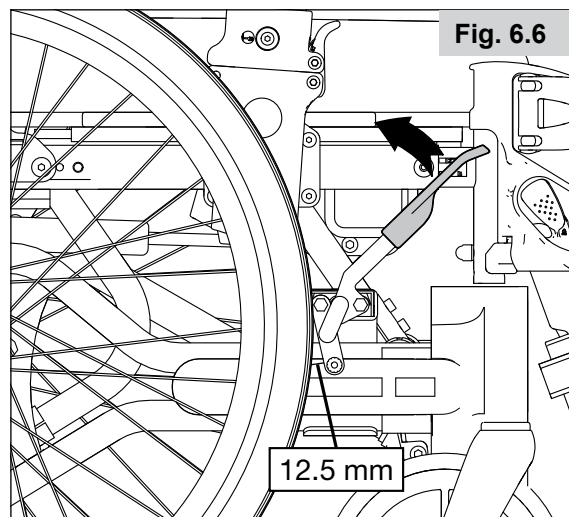

Fig. 6.6
6.6 Adjusting the brakes (Fig. 6.6)